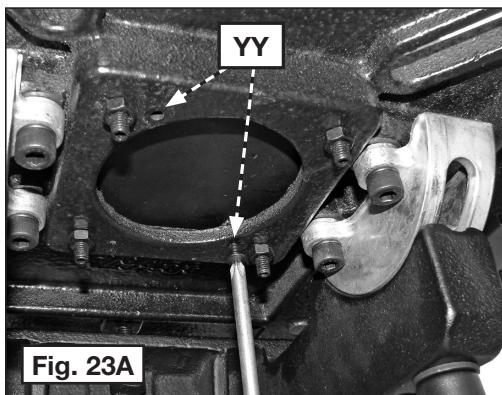

Fig. 23A
1. Remove two screws from holes (YY) Fig. 23A that hold insert in place.
4. Hold down on the insert and secure it in place with the 2 screws that were removed in Step 1. Insert screws in holes (YY) Fig. 23A and secure insert in place.